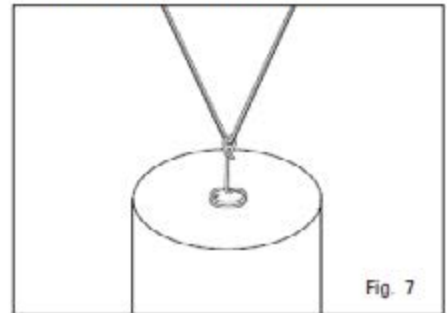

Fig. 7
- C3. Slip the eye loop of the corkscrew over the cable. (Fig. 7)